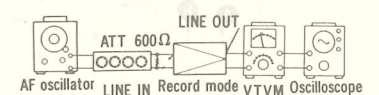

Fig. 16
<p>Ⓛ Level meter</p> <p>Condition:</p> <ul style="list-style-type: none"> <li>* Record mode</li> <li>* Input level controls ... MAX</li> </ul> <p>Equipment:</p> <ul style="list-style-type: none"> <li>* VTVM</li> <li>* AF oscillator</li> <li>* ATT</li> <li>* Oscilloscope</li> <li>* Resistor (600<math>\Omega</math>)</li> </ul>	<ol style="list-style-type: none"> <li>1. Test equipment connection is shown in fig. 16.</li> <li>2. Supply 1 kHz signal from the AF oscillator, through the ATT to the LINE IN.</li> <li>3. Adjust ATT so that the monitor level at LINE OUT becomes 0.39 V.</li> <li>4. Check to see that the level meter stays within the range of -1 dB to +1 dB.</li> <li>5. If it is beyond the range, carry out the following adjustments: <ul style="list-style-type: none"> <li>• Open soldered points (C) (L-CH) and (E) (R-CH) indicated as "DOWN" where level more than +1 dB.</li> <li>• Open soldered points (D) (L-CH) and (F) (R-CH) indicated as "UP" where level less than -1 dB.</li> </ul> (See wiring connection diagram and circuit boards on page 8.) </li> </ol>